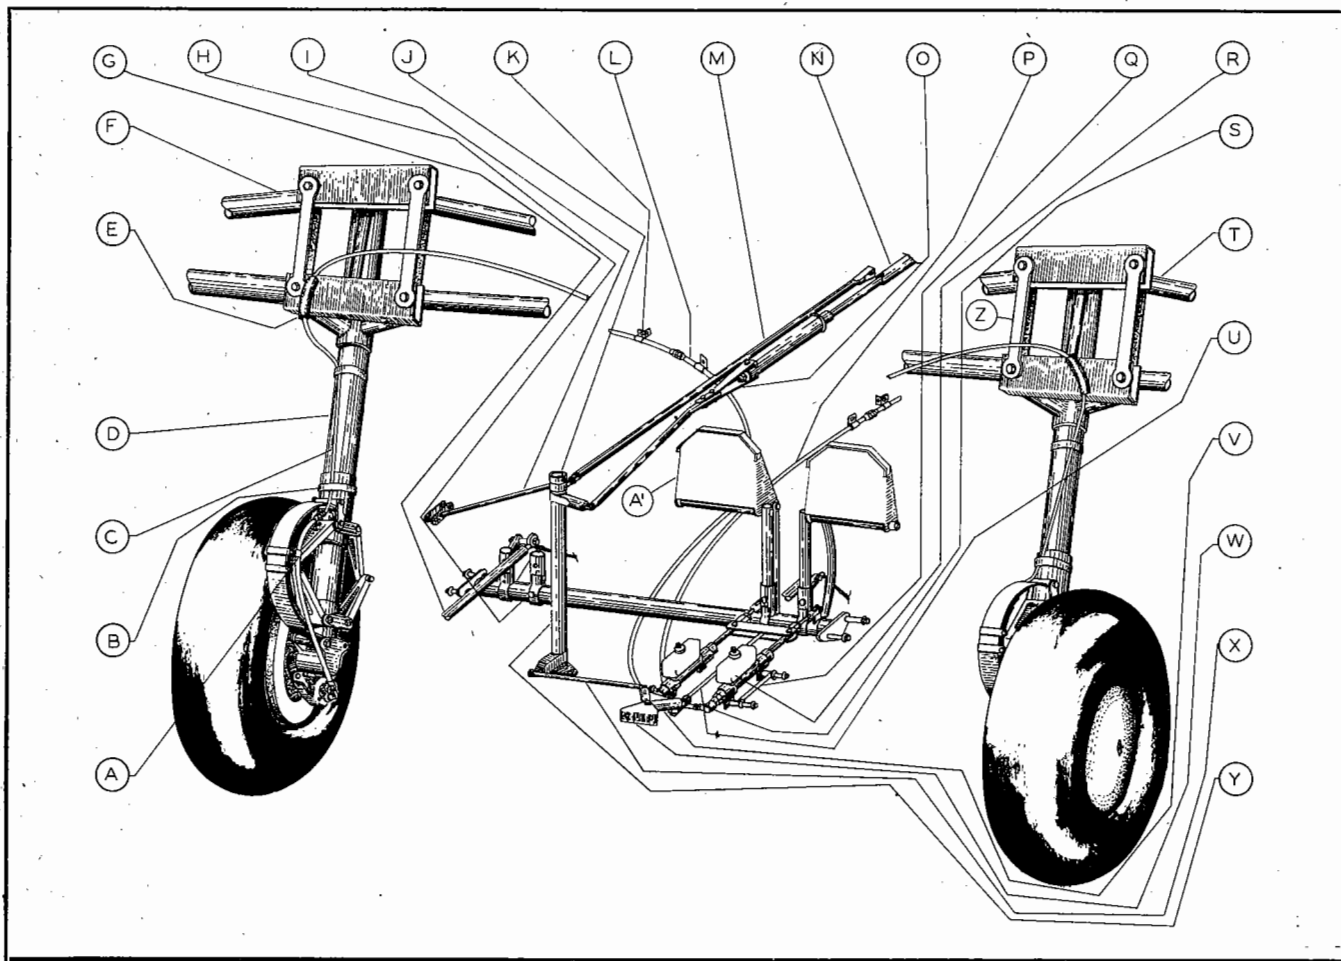

Figure 41—Brake Servo System
a. MAIN LANDING GEAR. (See figure 41.)
(1) DESCRIPTION.—The main landing gear is of the cantilever non-retracting type. One unit is mounted in each wing panel at station 43 and consists of a spring-type oleo shock strut, axle, and a 6.00-6 size low-pressure tire. The wheels are of formed spot-welded steel sheet and a single disc-type hydraulically operated brake unit is mounted on the form.
Key to Figure 41